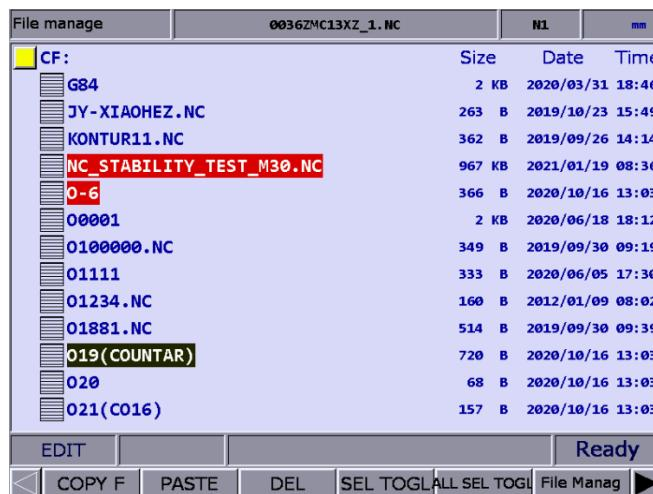

Figure 7.6.1
- (1) Set the system to EDIT mode.
- (2) Press **PRG** to switch to the PRG screen.
- (3) Enter the directory where you want to select the files.
- (4) In the File manage screen, press **↑** and **↓** or **PAGE UP** and **PAGE DN** to move the cursor to the file to be selected. To select a file, press **SEL TOGL** (as shown in Figure 7.6.1). To cancel the selection, press **CANCEL**. To select all files, press **ALL SEL TOGL**.